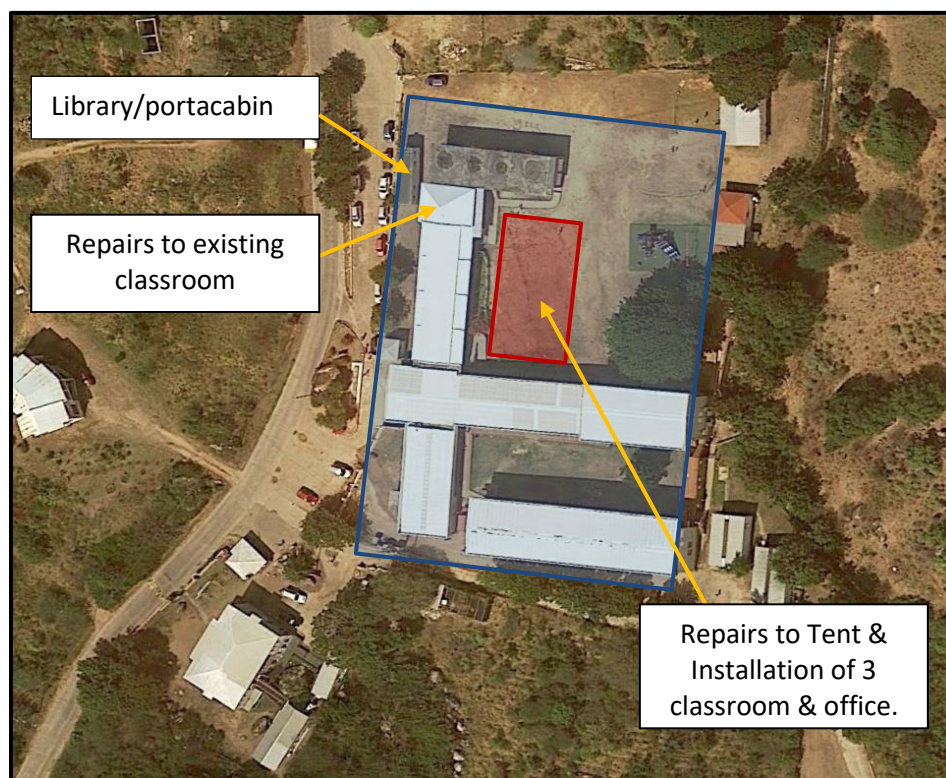

Figure 2. The school in detail. Blue areas indicate the school grounds; red areas are the location of the temporary structure.
- 1.1.1 The end classroom to the primary school block, as noted on the photo in figure 2 of this document, has a leaking roof due to the damaged metal roofing. The contractor will need to erect a mobile scaffold to gain safe access onto school roof to inspect damages, safety harness must be used whilst inspection and remedial works are carried out.